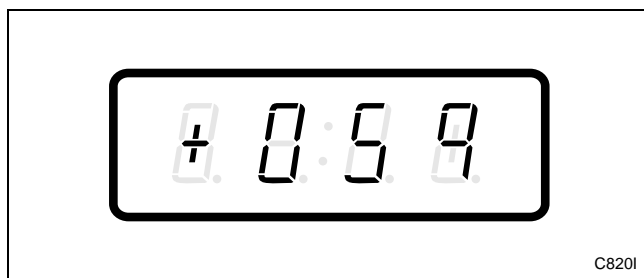

Figure 73
3. Press the DELICATES (+) or the COLD (-) keypad to scroll through the programmable options until “+059” appears in the VFD. Refer to *Figure 73*.